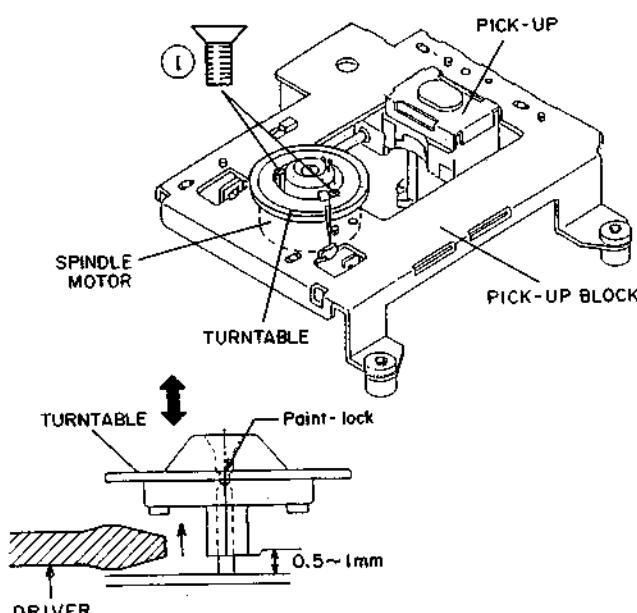

Fig. 3-8
- 2) Remove the SPINDLE motor retaining screws ①.
- Put the turntable on to the spindle motor shaft and adjust the turntable so that the height of the turntable from the chassis is 0.5 to 1.0 mm as shown in Fig 3-8.